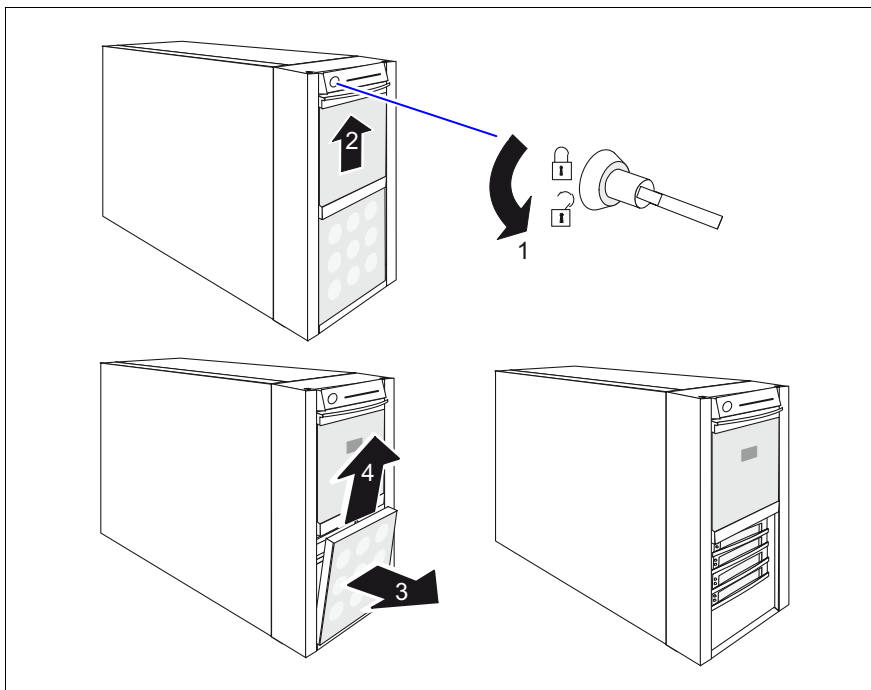

Figure 6: Removing the hard disk cover
► Remove the hard disk cover as shown in figure 6 on page 26.